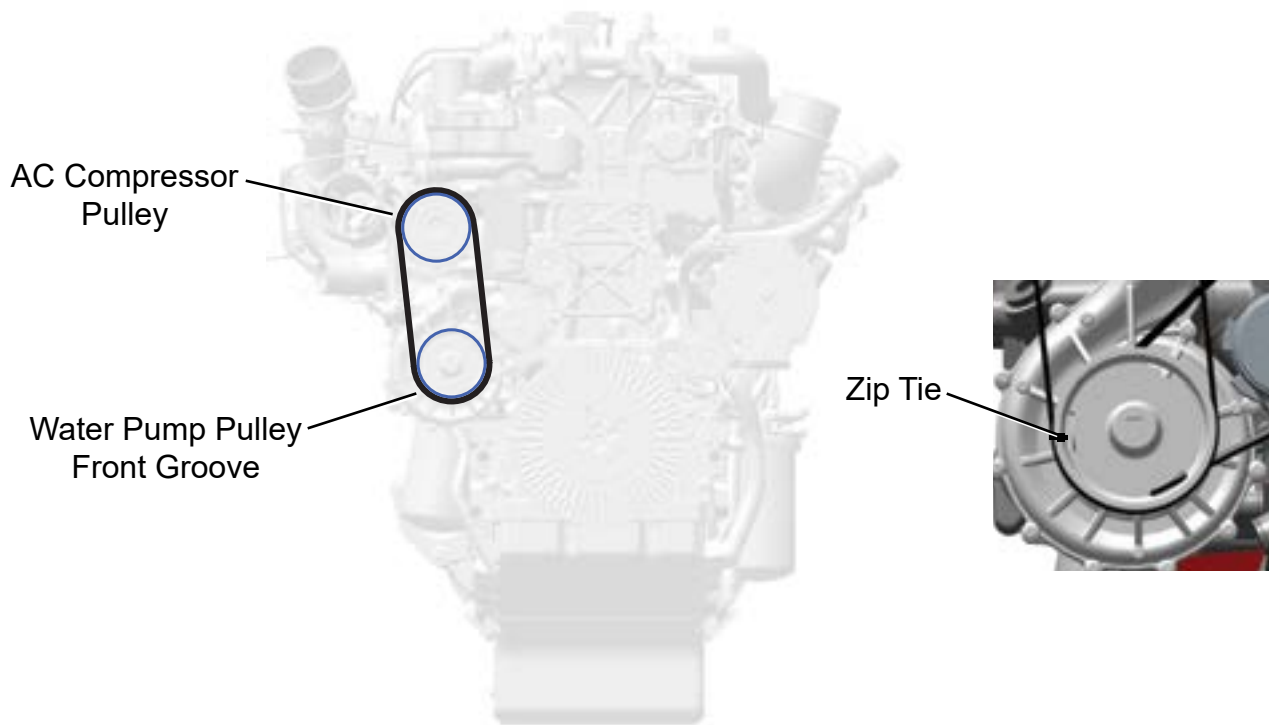

Figure 3
Route air conditioning compressor belt over compressor pulley and around water pump pulley front groove. See Figure 3.
1. Install belt on compressor pulley and partially on water pump pulley front groove. Zip tie belt to water pump pulley, see Figure 3.